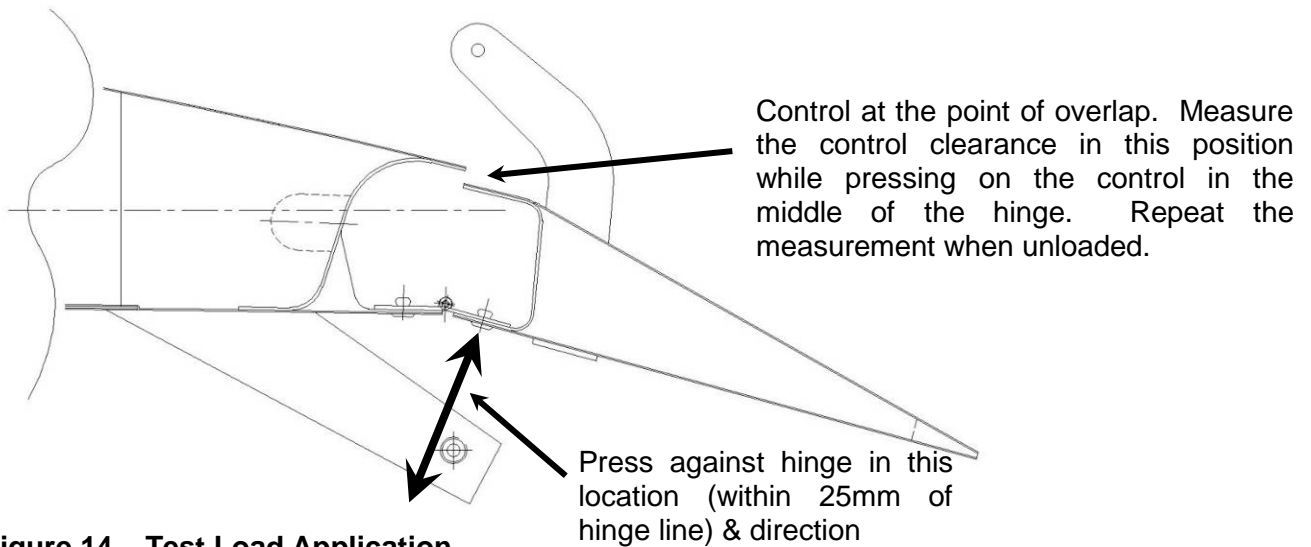

Figure 14 – Test Load Application
- Controls are to be tested this way at every hinge. The force to be applied in each direction is approximately 5-7kg (11 – 15lb). Inspectors can “calibrate” their thumbs by pushing onto a set of scales to indicate how hard they need to push. See Figure 14 for details of where to push on the controls.